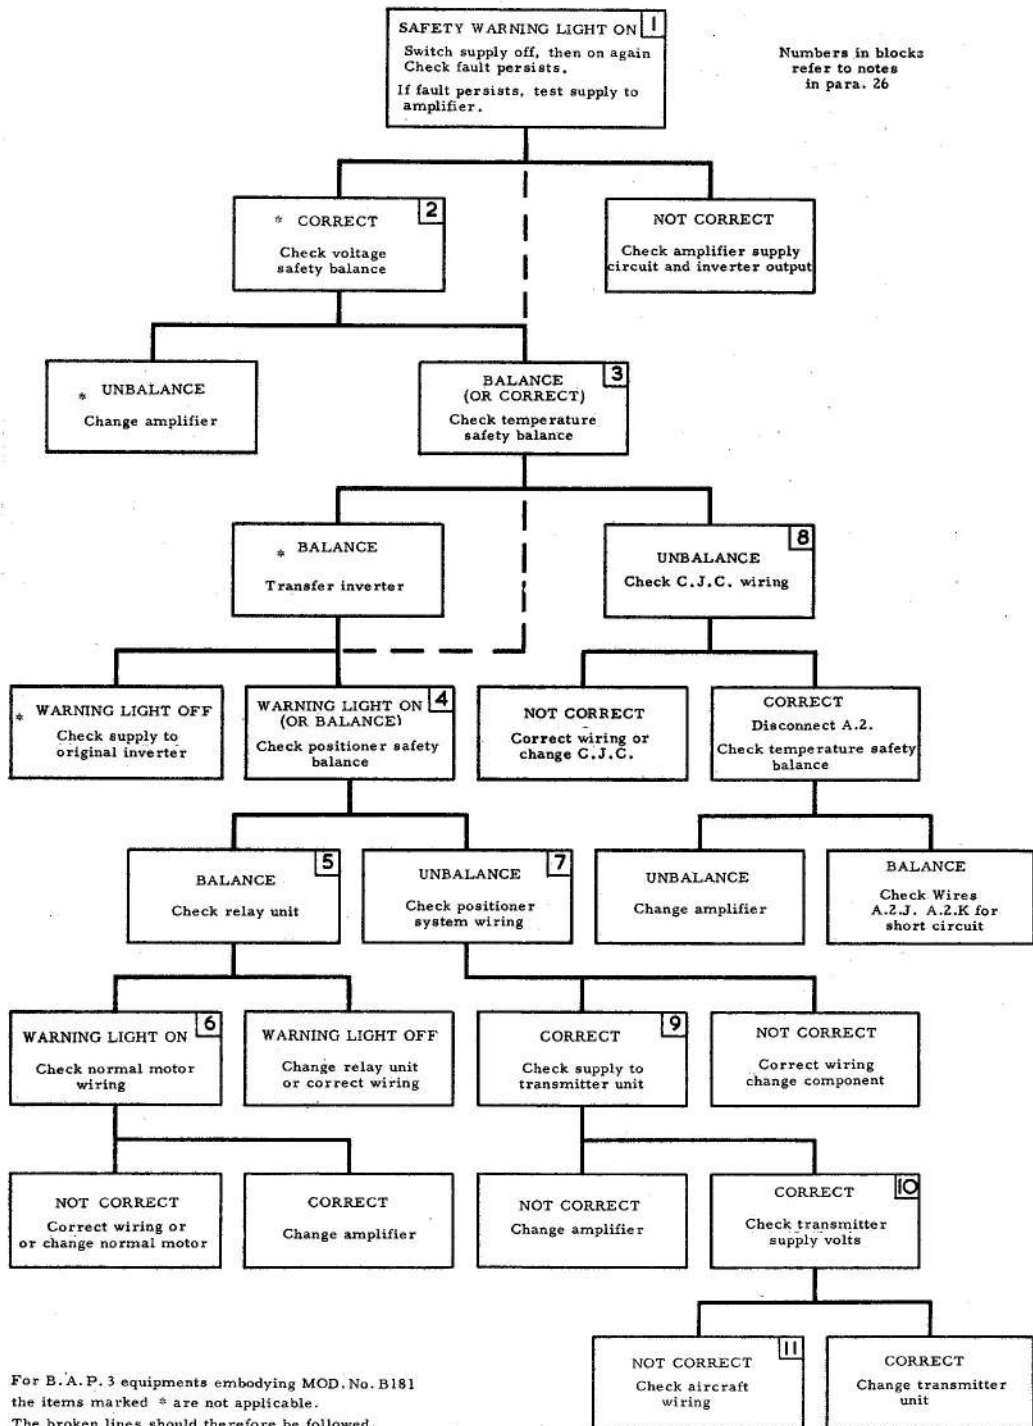

Fig. 5. Fault finding chart
26. The following notes amplify the abbreviated instructions given in numbered blocks of the fault finding chart (fig. 5).